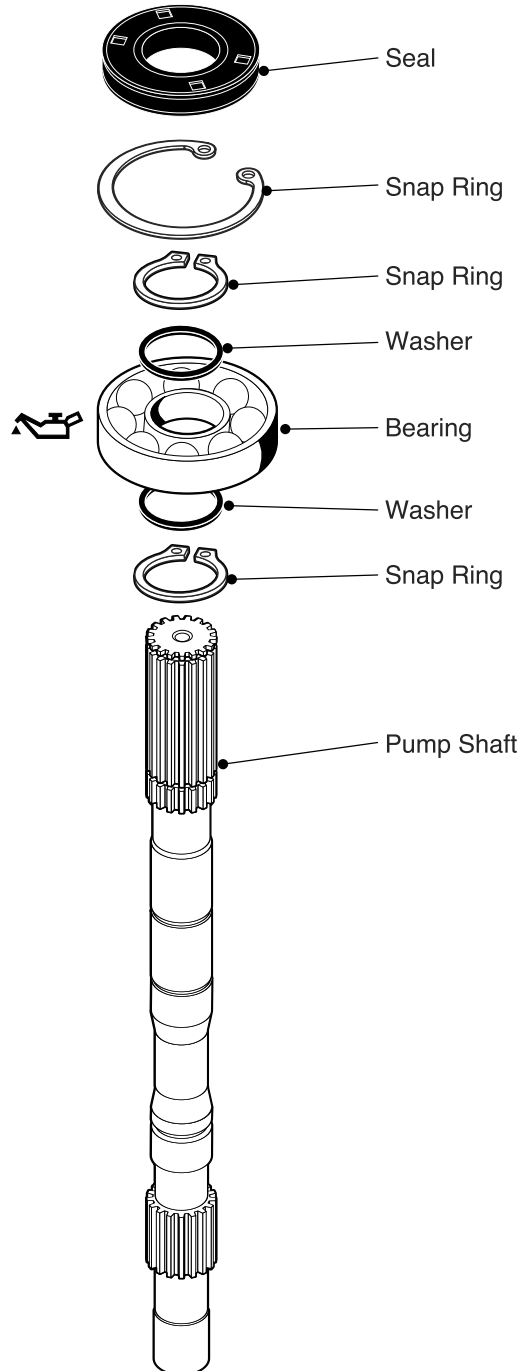

Fig. 18, Pump Shaft Assembly
- Installation involving a new Bearing: (Fig. 18)